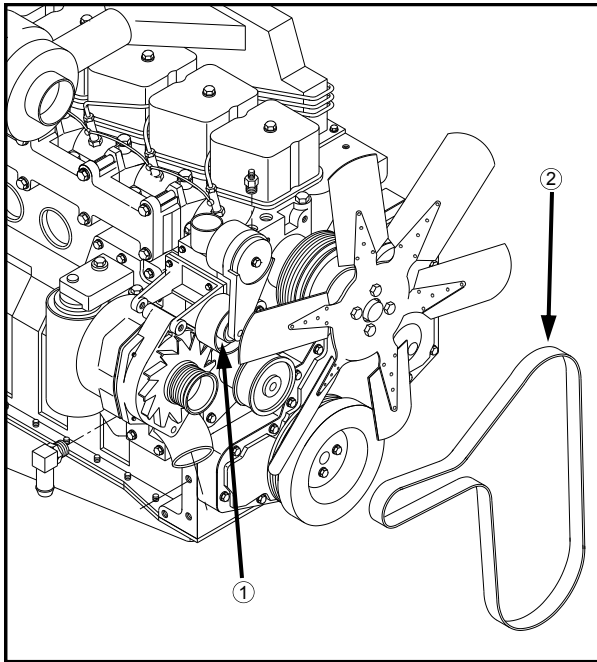

FIG 7.53
REMOVAL - Insert a 3/8 inch square ratchet drive into the belt tensioner (fig. 7.53, item 1) and lift upward to remove the belt (fig. 7.53, item 2).